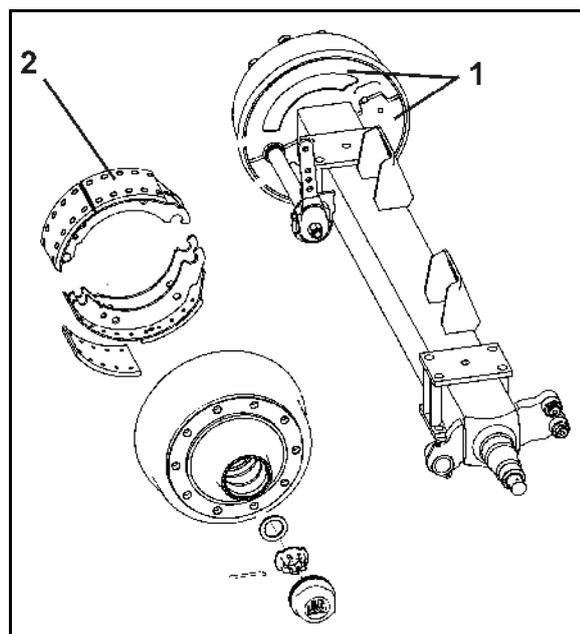

Fig. 131
1. Unscrew the two cover plates (Fig. 131/1) on the inside of the brake drum.
Dirt entering the drums may be deposited on the brake shoes (Fig. 131/2) thereby appreciably reducing braking performance.